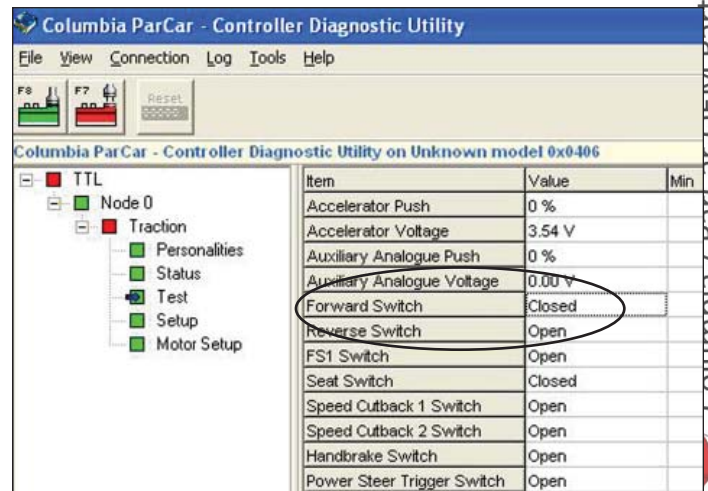

Figure 4-5. Forward Switch Test
4. Check the direction input to the controller. Observe the value of the “Forward Switch” item while turning the direction selection switch to “Forward” and to “Neutral”. The switch should read “open” when the switch is in neutral and “closed” when in forward (Figure 4-5). Do the same in reverse by monitoring the “Reverse Switch” item and value. If the switch fails to close in either direction, check the switch with a VOM and the wiring back to the controller (Pin 2 for Forward and Pin 3 for Reverse).